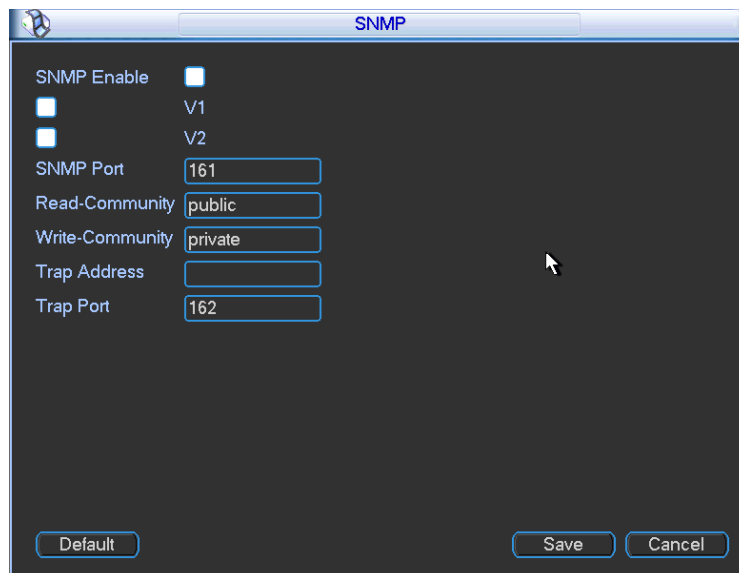

Figure 5-36
You can set in the following interface. See Figure 5-36.
- z In Figure 5-36, check the box to enable the SNMP function. Input the IP address of the PC than is running the software in the Trap address. You can use default setup for the rest items.